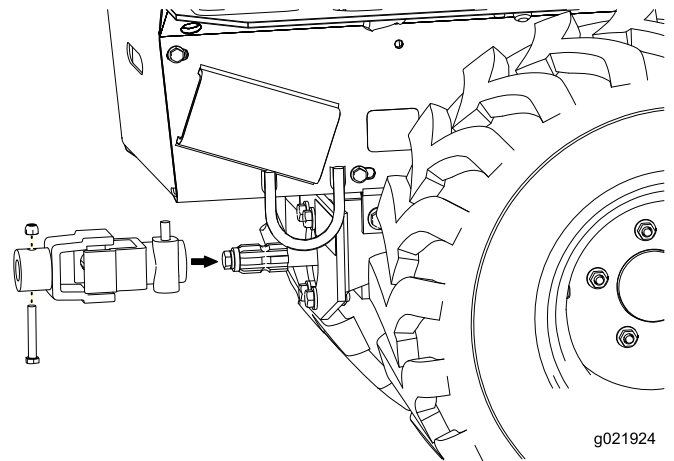

Figure 6
11. Install the joint assembly to the motor assembly. Secure with the bolt (3/8 inch) and the nut (3/8 x 2-1/2 inch) (Figure 6).